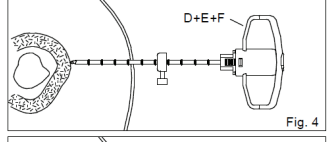

Fig. 4
The approach should be accurately planned using diagnostic imaging and clinically approved techniques. Disinfect the skin, make a small skin incision, and perform local anesthesia. The following is a suggested method for using the device with a guided approach over the Guide Wire (C). For a direct approach, go to Fig. 4.
**FIG. 4** Introduce the assembled Cutting Cannula with Grooved Stylet and optional Handle (D+E+F) by rotating counterclockwise until in contact with bone. Remove Guide Wire (C) if present.